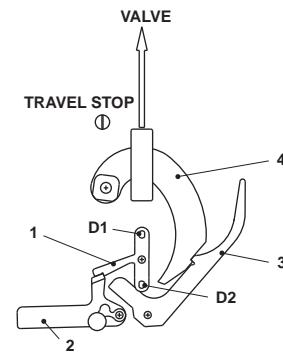

Figure 14. Mechanism Details
OPERATION (BM) (FIGURE 14)
- Manual release of slam shut (figure 14)
- Manually press on the releasing stem pin D1 or D2 (figure 14, key 1) parallel to the BMS axe
- Disassemble the mechanism box (BM) from the connector by unlocking the yoke